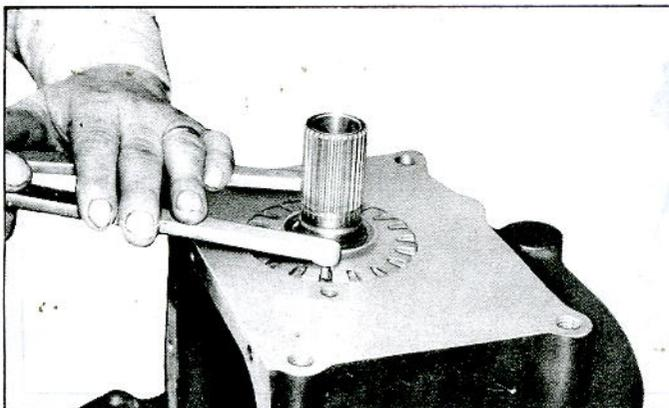

Fig. 15—Removing Pinion Adjusting Sleeve with J-972
6. To remove pinion adjusting sleeve, first remove locking tab and then unscrew the adjusting sleeve using J-972 as illustrated (fig. 15).